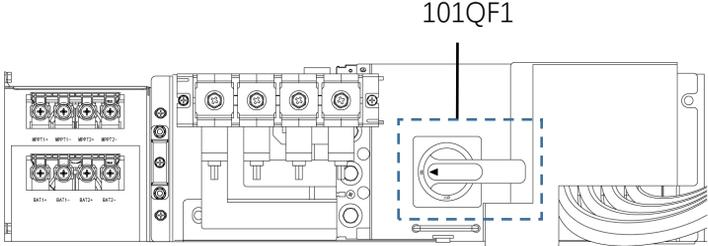

Figure.4
- ⑧ Turn on the AC breaker **101 QF1** on the AC PDU. Now the sequence to power on the equipment is finished. See the Figure.4.